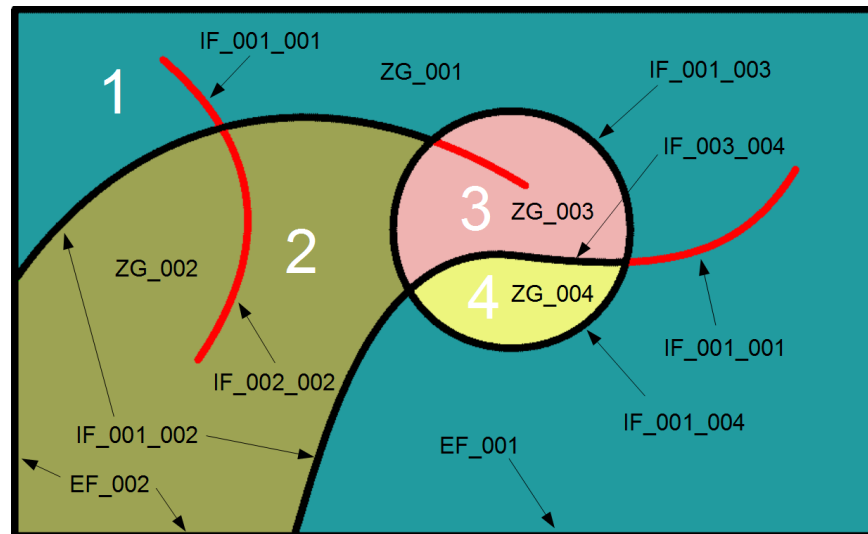

Figure 46: Zone and face groups from a *Griddle*-generated *FLAC3D* grid for automatic group name assignment.
A hypothetical section through a *Griddle* volume mesh generated for *FLAC3D* is shown in Figure 46. After filling the interior of the model domain with zones (elements), *Griddle* assigns an ID to each watertight volume. Figure 46 presents an example of such volume IDs as large white numbers. The IDs are used to generate group names for zones in *FLAC3D*.
*FLAC3D* zone groups are always assigned names automatically based on volume ID (as *Rhino* currently does not have capabilities to interact with volumes represented by surface meshes). To distinguish zone groups from other group names, *Griddle* assigns zone groups the prefix “ZG\_” and a suffix corresponding to the closed volume ID. For, example, area 1 in Figure 46 can be referenced as “ZG\_001” in *FLAC3D*. The “ZG\_” groups are stored in slot “SLOT 1”.
Some surfaces do not fully divide the volume into distinct pieces. Such “floating” surfaces are represented by the red lines in Figure 46. In automatic naming, their face group names contain a duplicate number. For example, faces group “IF\_002\_002” is designated from the “ZG\_002” zone groups on either side of it.
If the surface mesh has a name assigned to it in *Rhino* Properties, then this name will be used for *FLAC3D* face group (and prefixed with “EF\_” or “IF\_”). These names take precedence over the automatically assigned names shown in Figure 46.
*3DEC* block groups are represented by strings containing numeric digits. Block groups start at “001” for *3DEC\_7.x* output and at “10001” for *3DEC 5.2* (due to *3DEC 5.2* specifics) and each new group name is increased by “1”. Block groups are assigned in random order. For example, block group names will be “001”, “002”, ... (similar to *FLAC3D* “ZG\_...” groups, see Figure 46). All groups are placed in “SLOT 1”.
Joint groups are arbitrarily assigned if corresponding surface mesh name is not provided (there is no relationship between joint group and the block group names surrounding it). Note that “floating” surface meshes (the red lines in Figure 46) will not appear in *3DEC* deformable output and therefore no names would be assigned to them.